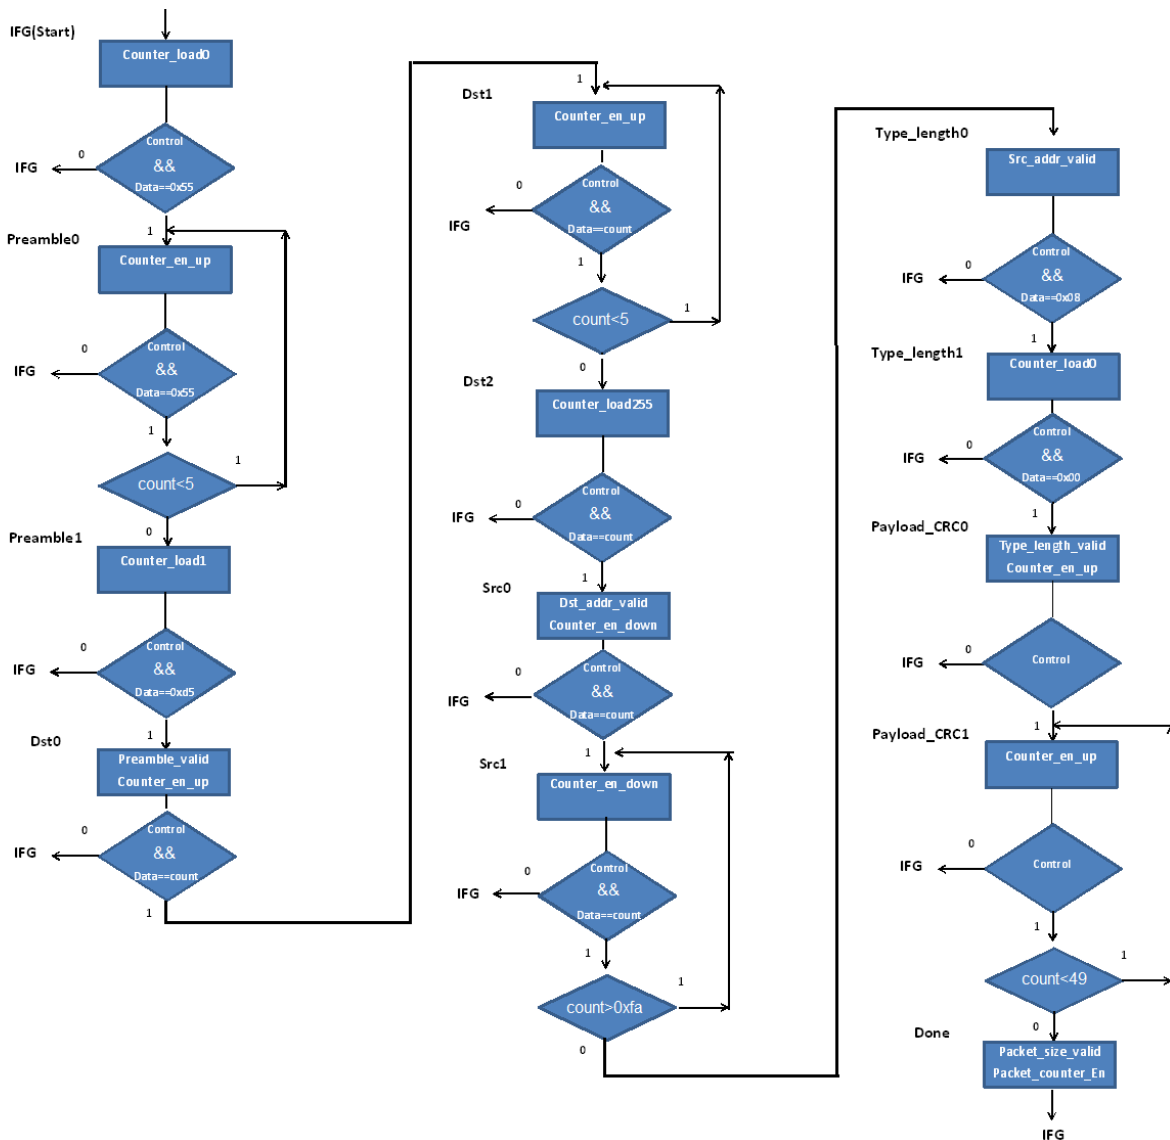

Figure 7: Detector's FSM
-The Detector's Controller (Moore Finite State Machine) is shown in Figure 7: